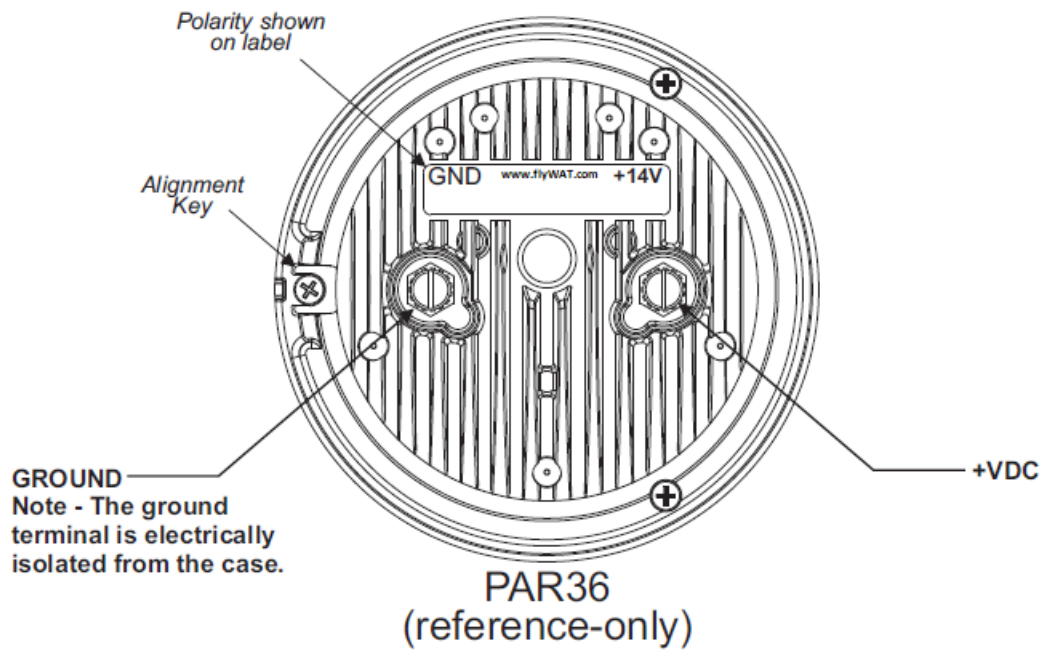

Figure 10.1 – Typical PAR36 LED Light
The Parmetheus Plus light assemblies are available in both PAR36 and PAR46 sizes, and 14VDC and 28VDC versions to enable their use on all of the Part 27 rotorcraft platforms identified in the Approved Model List, AML-150212. Figures 10.1 and 10.2 provide illustrations of the 14VDC versions in PAR36 and PAR46 sizes. The 28VDC versions are physically identical.
- 10.1.1. **REMOVAL** - Refer to Figures 10.1 and 10.2.
- 10.1.2. **INSTALLATION** - Refer to Figures 10.1 and 10.2.